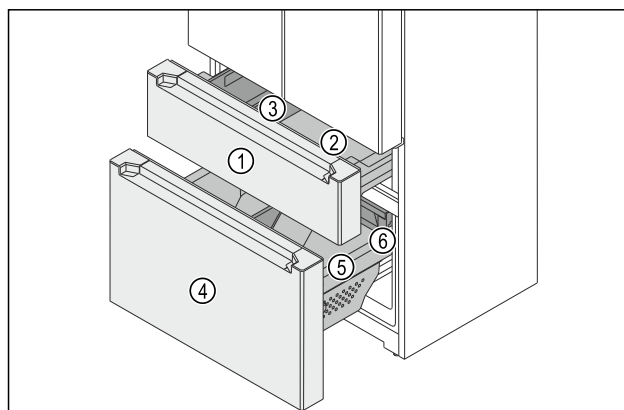

Fig. 126 Freezer section pull-out carts
- (1) Top pull-out cart
- (2) Container
- (3) FlexBox
- (4) Bottom pull-out cart
- (5) Container
- (6) Drawer
The freezer section consists of two pull-out carts. The top pull-out cart *Fig. 126 (1)* has one container *Fig. 126 (2)* and one FlexBox *Fig. 126 (3)*. The bottom pull-out cart *Fig. 126 (4)* has a larger container *Fig. 126 (5)* and a drawer *Fig. 126 (6)*. You can remove the FlexBox and the container in the top pull-out cart for cleaning.